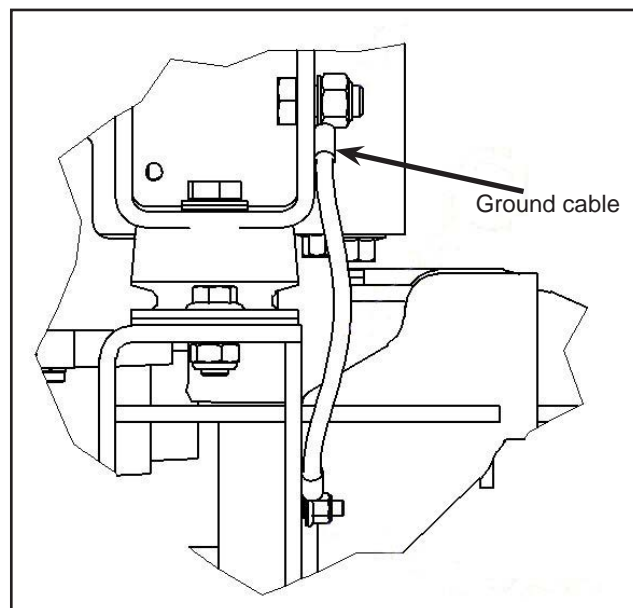

Figure 2 - Close View of the Ground Cable
- 1.3. Remove the ground cable from the radiator frame. Retain the hardware. See Figure 2.